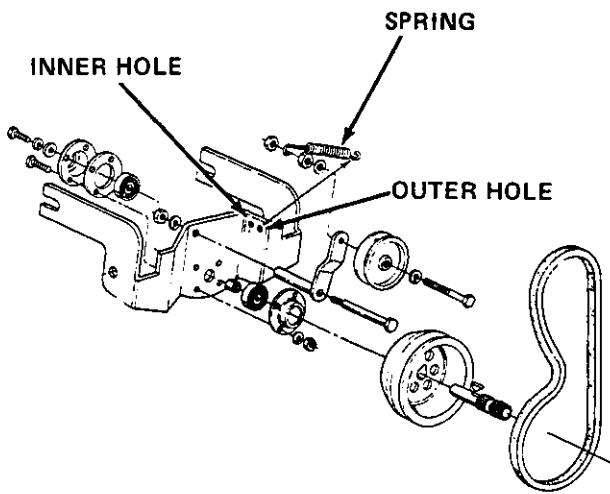

FIGURE 5
6. **Model 418 only:** Hook long end of spring (provided with PTO kit) to the bolt which secures the idler pulley as shown in figure 5.